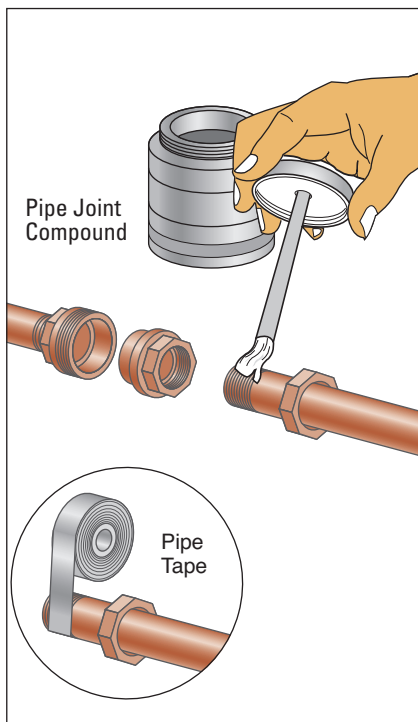

Figure 3-3:
- ✓ **Pipe joint compound:** Pipe joint compound is sometimes referred to as pipe dope. It's used to seal the joint between a threaded fitting and steel pipe. Always use pipe dope when working with gas pipes; many people also use it when working with galvanised steel water pipes. Pipe joint compound is typically painted onto the threads cut into the end of the pipe that's called the male end, as shown in Figure 3-3.
- ✓ **Teflon (also called PTFE) tape:** You use this tape, a substitute for pipe joint compound, to seal the threads on steel pipe – see Figure 3-3. Use white Teflon tape for sealing pipe threads; use yellow Teflon tape, which is much thicker, for sealing pipe threads when working with gas pipes.